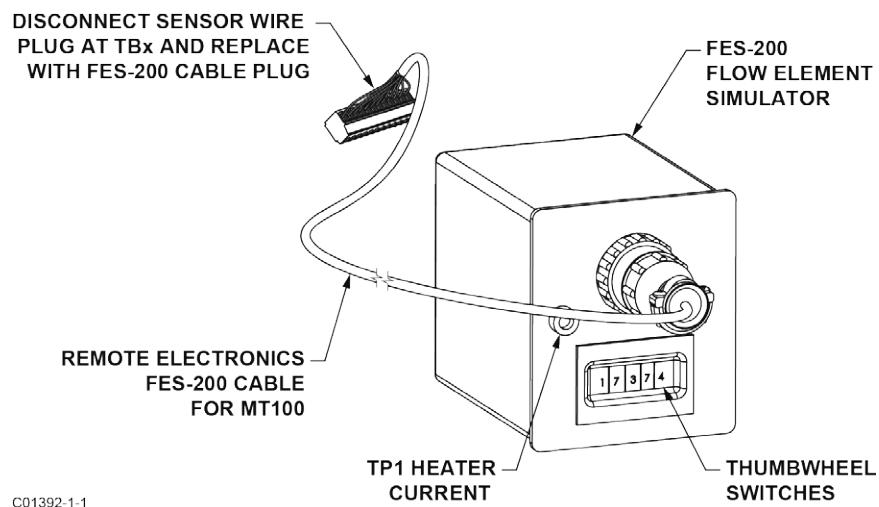
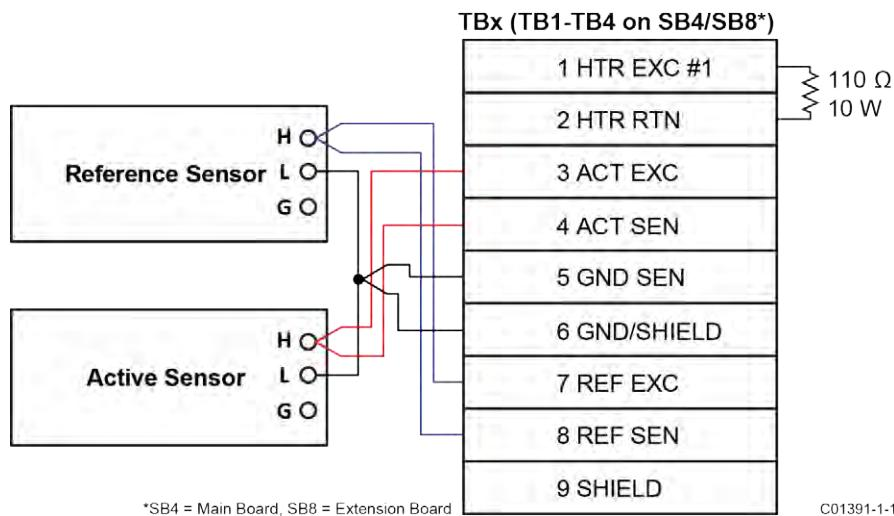

Figure 61 – Connecting FES-200 to MT100 Transmitter
Figure 62 – MT100 Decade Box Wiring
3. Disconnect a flow element sensor from the MT100 transmitter (TBx) and connect the FES-200 cable connector in its place. See Figure 61. Precision decade boxes can be used in place of the FES-200. See Figure 62 for decade box wiring.